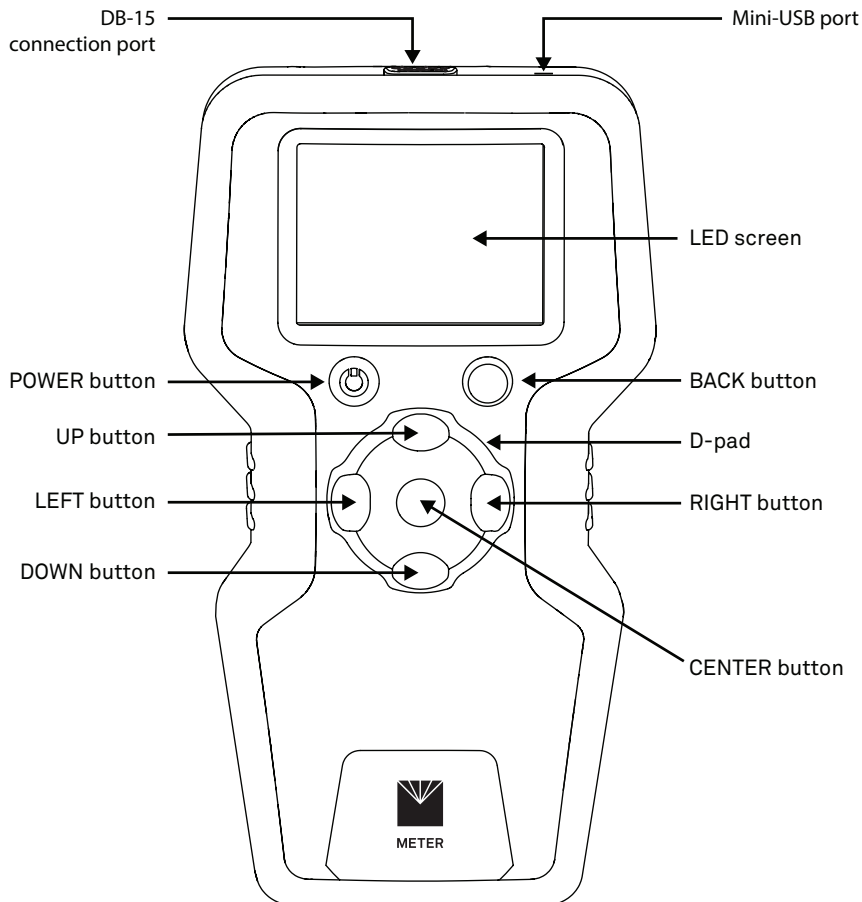

Figure 1 TEMPOS controller
The TEMPOS controller has a **POWER** button, a **BACK** button, and a central D-pad. The **POWER** button (Figure 1) turns the TEMPOS controller on and off. To completely power down the unit, quickly press the **POWER** button and release. For a hard reset of the device, push and hold the **POWER** button for 5 s.
Pressing the **BACK** button (Figure 1) moves the cursor back to the previous screen. When it is pressed multiple times, the cursor moves back to the Main menu. Changes are automatically saved.
The D-pad selects configurations or options in the TEMPOS controller (Figure 1).
- The **CENTER** button (Figure 1) serves as the Select or Enter function.
- The **UP**, **DOWN**, **RIGHT**, and **LEFT** buttons (Figure 1) are active when an icon or text on the display screen is highlighted in red. These arrows allow the user to scroll within a field or to select a field before pressing the **CENTER** button.